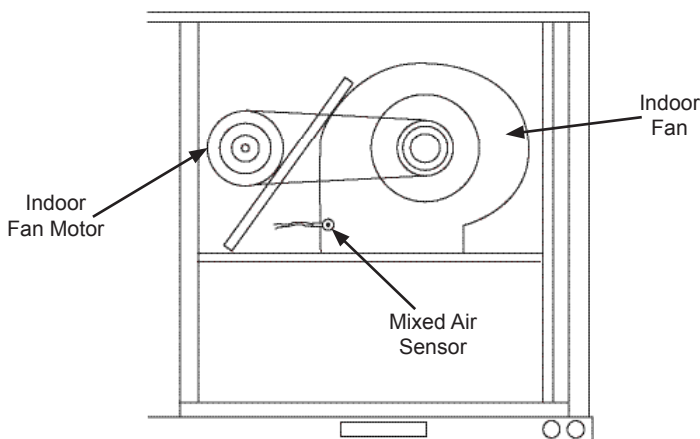

Figure 8A - Mixed Air Sensor Location
3. Mount the mixed air sensor to the indoor fan through the existing bottom screw on the blower. See Fig. 8A.